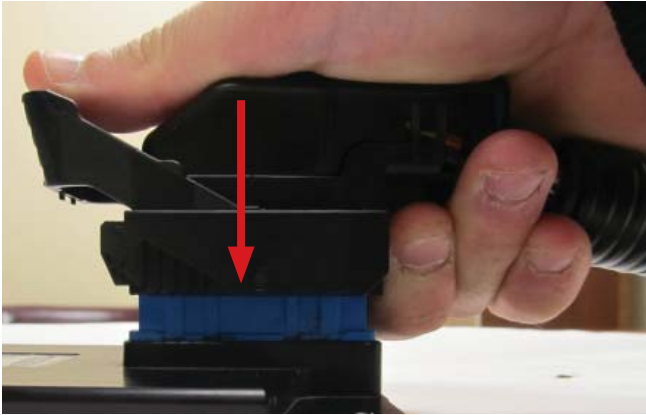

Figure 1
1. Correctly orient the harness connector (align keying features) onto the controller connector. Grip the top of the harness connector and evenly push the connector downward until the lever moves slightly forward. **Reference Figure 1.**